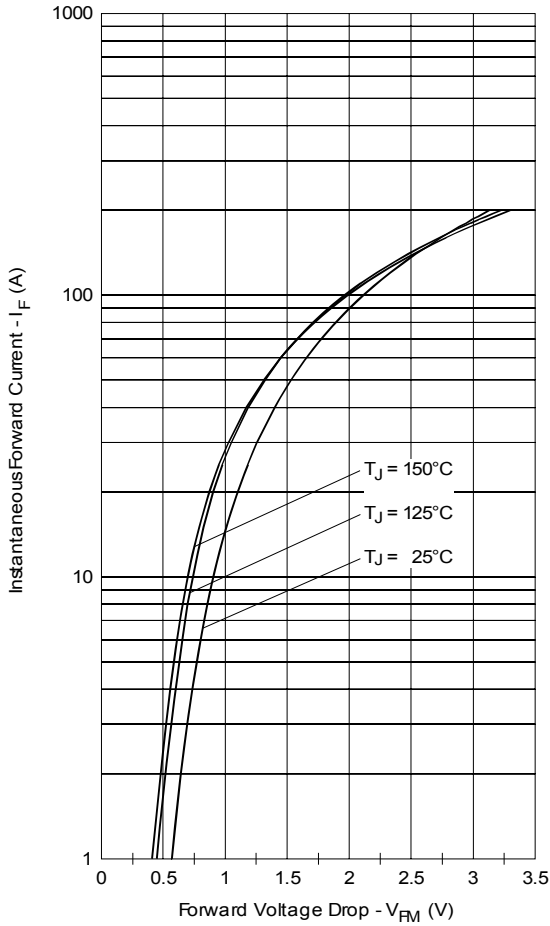

Fig. 1 - Max. Forward Voltage Drop Characteristics (Per Leg)
| V_{FM} Max. Forward Voltage Drop (Per Leg) * See Fig. 1 (1) | 0.80 | V | @ 6A $T_J = 25^\circ\text{C}$ |